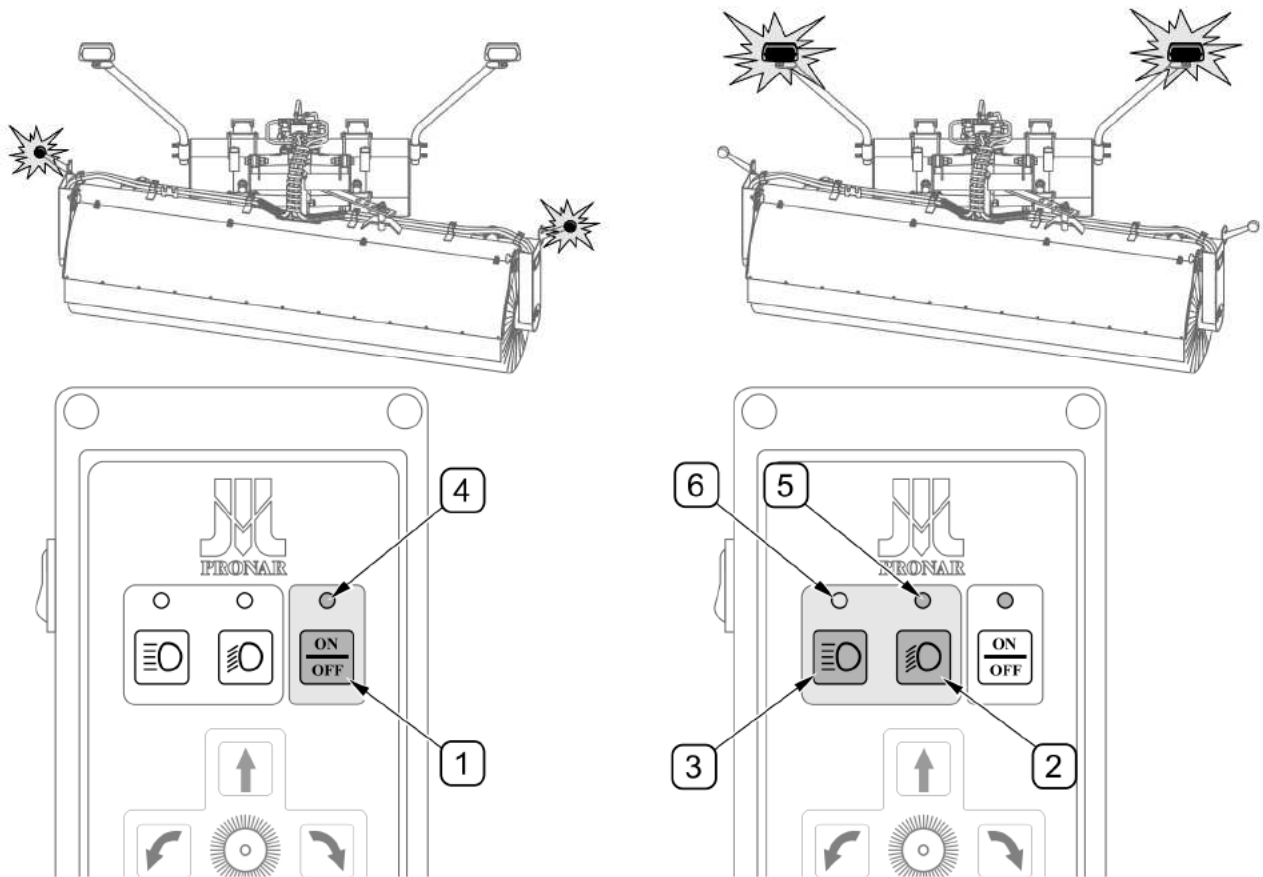

FIG. 4.11 Switching on additional lights (ZM-S25)
(1) - main switch of lights and clearance lights; (2) - dipped beam switch; (3) - high beam switch; (4) - clearance lights ON indicator light; (5) - dipped beam ON indicator light; (6) - high beam ON indicator light
ZM-S25 sweeper is equipped with clearance lights and additional working lights (FIG. 4.11). Push-button (1) is used for switching on and off the machine's clearance lights. Indicator light (4) lights up when the clearance lights are switched on. When push-button (1) is pressed again, the clearance lights and indicator light (4) go out. To switch on the sweeper's dipped beams or high beams, first switch on the clearance lights. Switch (2) is used for switching on dipped beams while switch (3) is used for switching on high beams. When high beams are switched on the dipped beams are switched off and vice versa. When the lights are switched on (FIG. 4.11), corresponding indicator lights (5) or (6) light up. Lights are switched on by pressing switch (1).
Switch(1) must be ON in order to switch on dipped beams or high beams -indicator light (4) is ON (FIG. 4.11). When clearance lights are switched off the dipped beams and high beams are switched off (applies to ZM-S25)